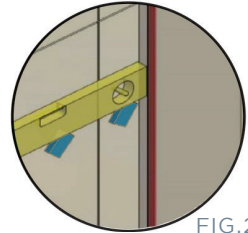

FIG.22
- Remove plastic backing from stabiliser blocks and press firmly onto wall (FIG 22).